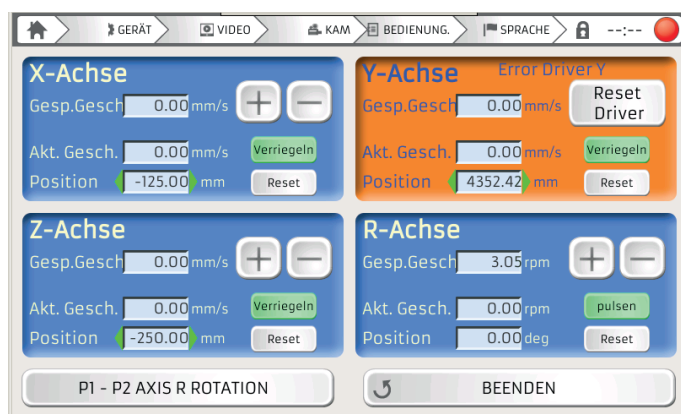

Figure 53 – Driver error
- AXIS DRIVER ERROR** – this error is due to a fault on the drivers associated with the respective axis, when active the box corresponding to the affected axis turns orange (see Y Axis in figure 53). Reset the driver by pressing the button that appears in this box. If the problem persists after resetting the driver, contact the technical assistance service.